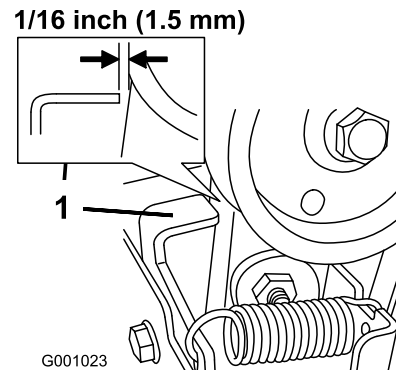

Figure 40
3. With the auger/impeller lever disengaged, ensure that the gap between the auger clutch assembly and the tab is 1/16 inch (1.5 mm) (Figure 40).